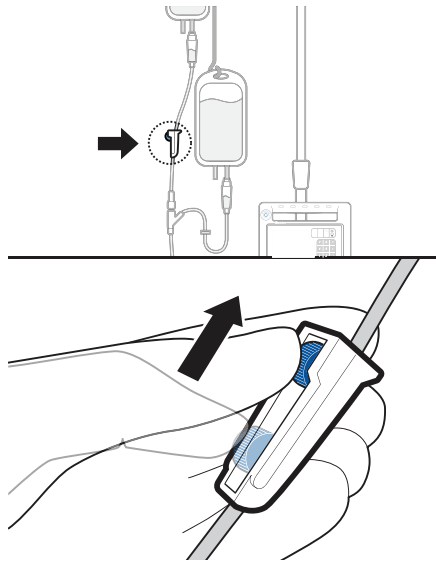

Figure 4-77 On/Off Roller Clamp
14. Open the On/Off roller clamp on the secondary medication/solution set (Figure 4-77) and immediately press the **START** key.